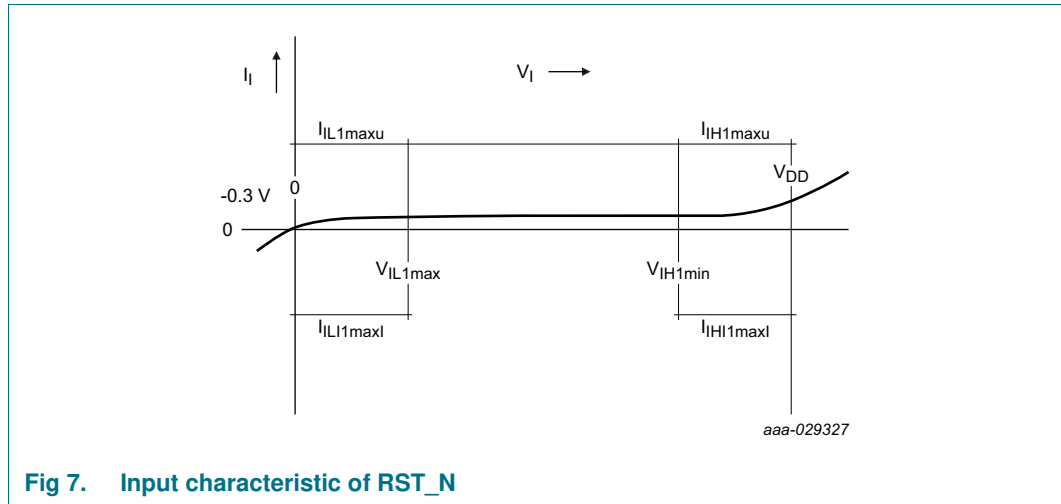

Fig 7. Input characteristic of RST_N
- [3] The active low RST_N input internally has a resistive pull-down device to VSS. Accordingly a current is flowing into the pad voltages above 0 V. Figure 7 shows the RST_N input characteristic.